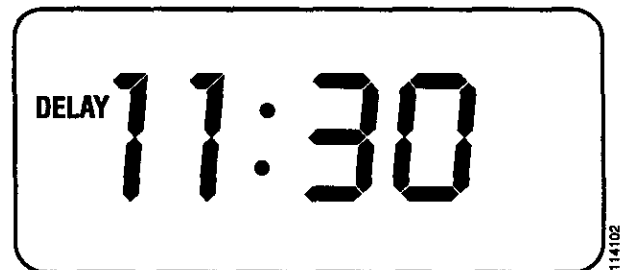

Figure 11.
9. Then press either the plus (+) or minus (-) button, to the right of the display, to set the the timer to the time interval desired. Maximum cooking time is 11 hours and 50 minutes (minimum cooking time is 1 minute). The display will return to the time of the day with the word DELAY appearing to the left of the day, as shown in Figure 11.
10. When the start time is reached the indicator word COOK will appear in the display with the set cook time. At the end of the programmed cook time the oven will shut-off automatically. The indicator word COOK will blink and three (3) "beeps" will be heard. The oven will continue to "beep" every 10 seconds until any button is depressed.
After the time has been entered a “beep” will be heard and the indicator words DELAY-START-TIME will appear briefly and then the display will return to time of day with the word DELAY appearing to the left of the time of day, as shown Figure 11.